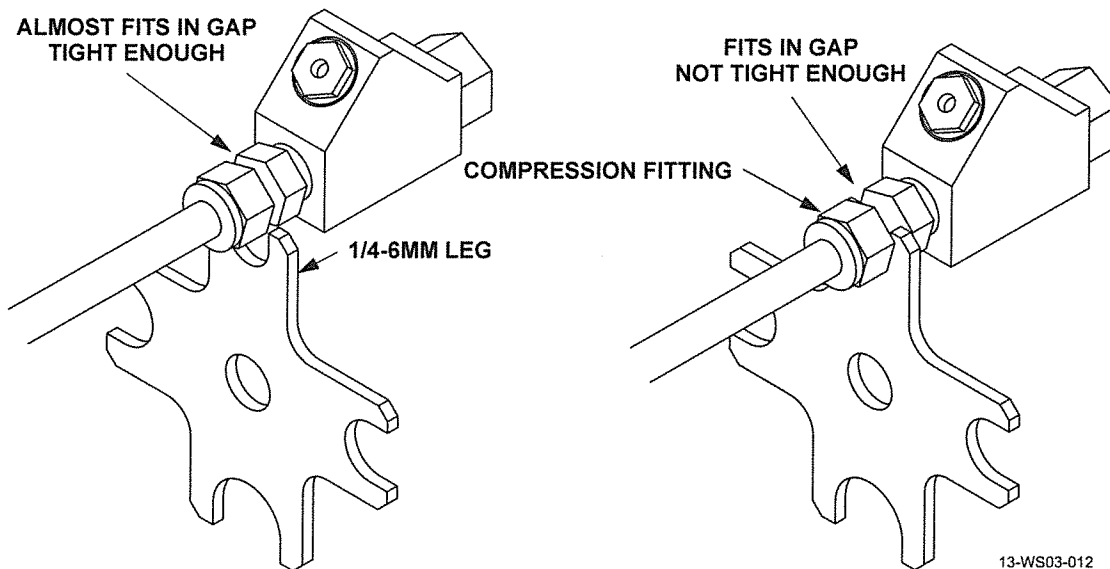

Figure 6: Compression Fitting Gauging
15. Using the 1/4 inch-6 millimeter leg of the supplied compression fitting go-no-go gauge, tighten all three compression fittings to the prescribed gap (See Figure 6).